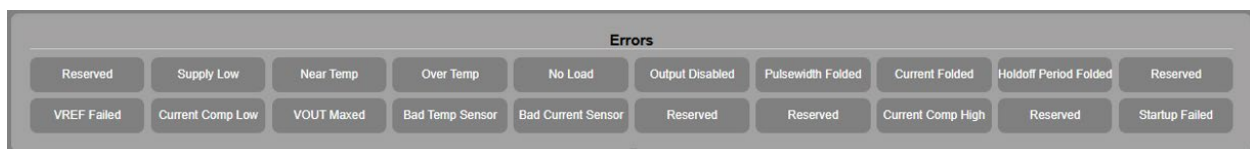

Figure 1.14. Error messages for CX – as displayed on the bottom of WEB interface
- On the bottom of the WEB interface – see Figure 1.14